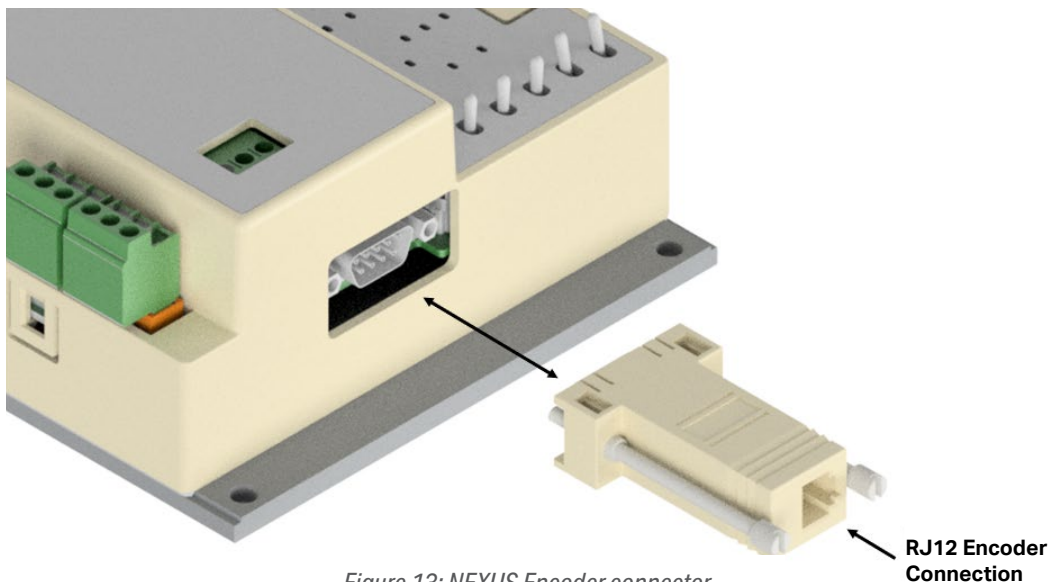
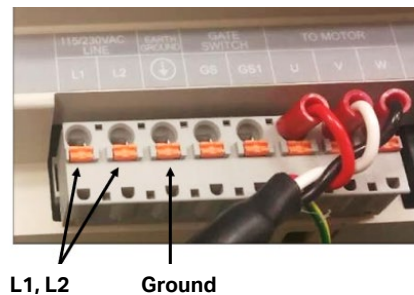

Figure 13: NEXUS Encoder connector.
Figure 19: NEXUS power, ground, gate switch, and motor terminals.
**2. Motor/Encoder Connection:** Verify that the motor and encoder connections are still secured after shipment and installation. Motor power connections are shown on right in Figure 19. The encoder connection is shown on page 21 in Figure 13.
**3. Interlock/Edge Detector:** Check that the door interlock or gate switch is wired into terminals GS and GS1 (Shown in Figure 19 above. (To the right of the ground connection.)) If detector edges are used, verify the connections shown in Figure 19.